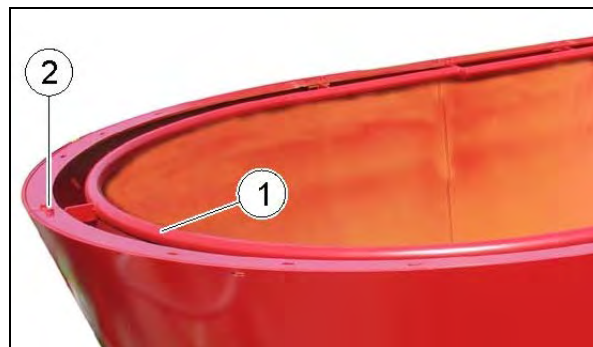

Fig. 19
- an inner overflow ring (Fig. 19).